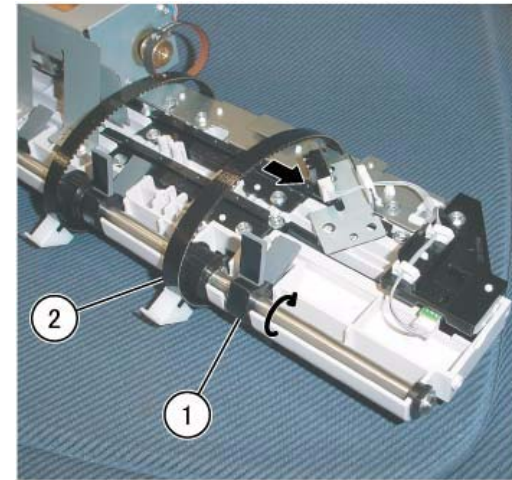

Figure 2 Removing the Eject Belt
6. Remove the Eject Belt (Figure 2):